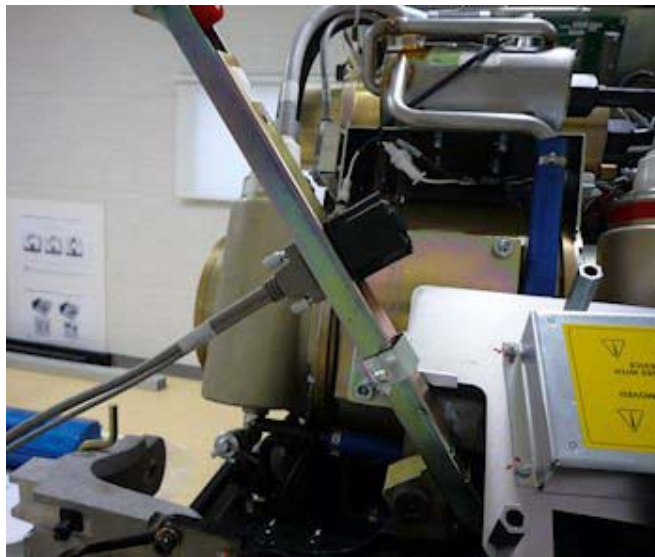

Figure A-32 Gantry Service Mode Cable Terminator
- d.) Connect FCVR BKHD J1 cable to terminator located on the cantrell arm. See Figure A-32.